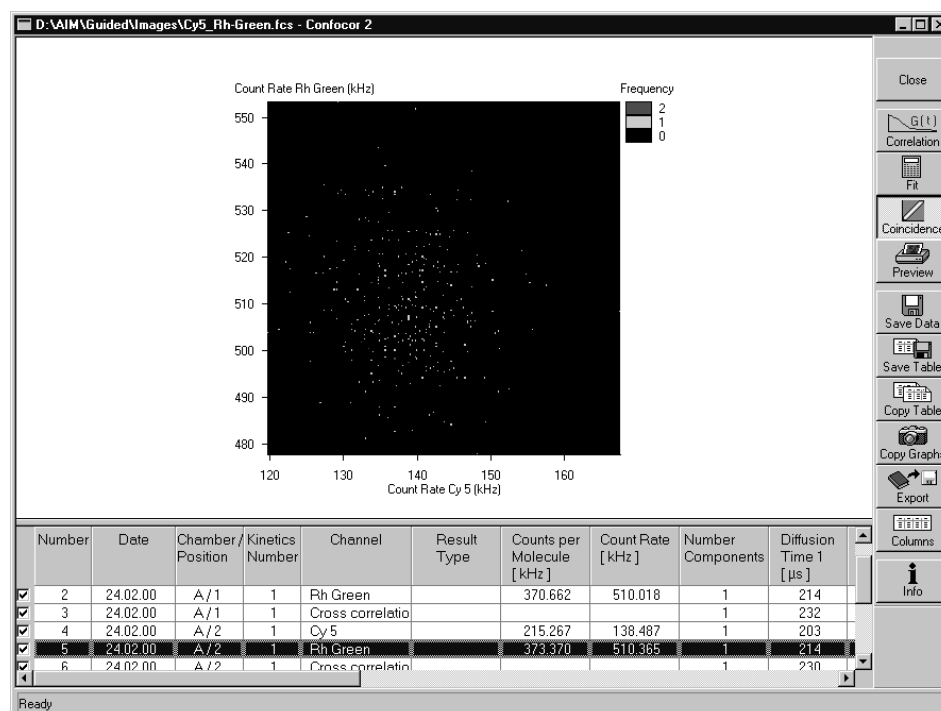

Fig. 5-385 Coincidence diagram window
- The coincidence analysis generates a two-dimensional color-coded count rate histogram (Fig. 5-385).